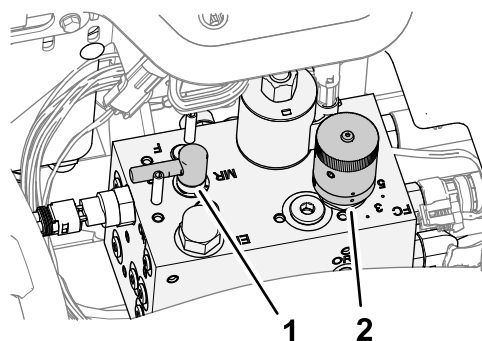

Figure 95
3. Move the backlap lever to the F (mow) position (Figure 95).